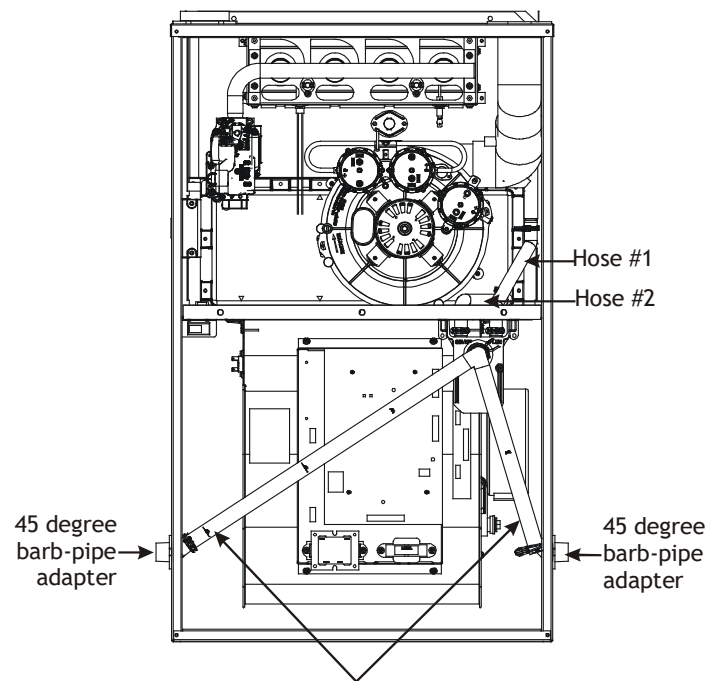

Figure 22
1. Locate and Install the 45° pipe / hose drain coupling from the outside of the cabinet (barbed end goes in the cabinet) through hole in the right side of the cabinet and secure with two field supplied #8 self-tapping screws (see Figure 22).
1. Install the 45 degree pipe / hose drain coupling from the outside of the cabinet (barbed end goes in the cabinet) through the hole in the left side of the cabinet and secure with two field supplied #8 self-tapping screws (see Figure 22).